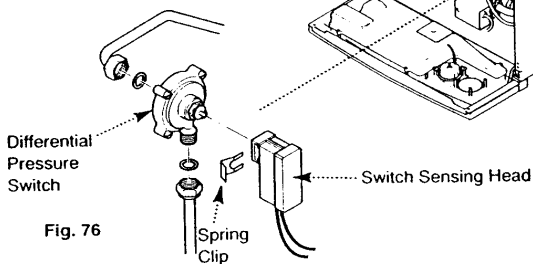

Fig. 76
**11.17 Differential Pressure Switch (Fig. 76)**